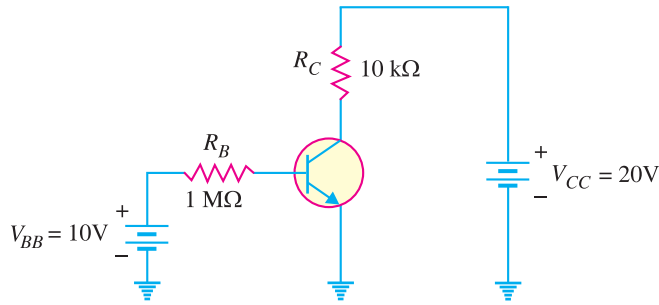

Fig. 8.72
12. Determine the intercept points of the d.c. load line on the vertical and horizontal axes of the collector curves in Fig. 8.72. **[2 mA ; 20 V]**